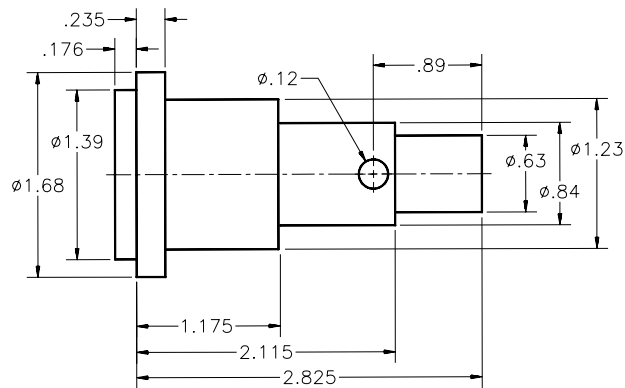

Figure 18-35 Drawing of Part-1
2. Draw Part-1 with dimensions, as shown in Figure 18-35. Save the drawing as Part-1.